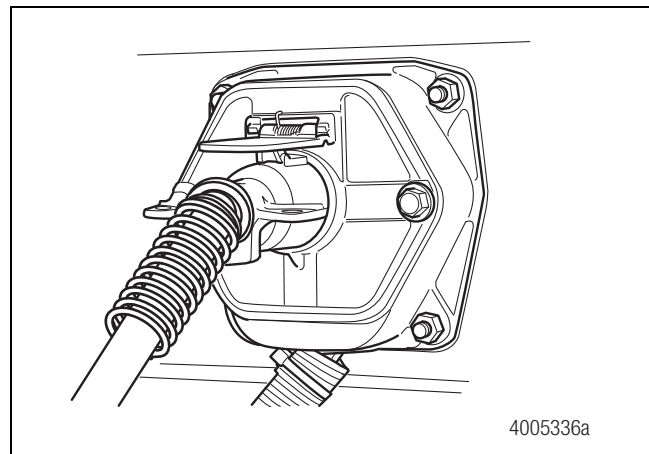

Figure 3.3
4. Connect a 12-volt power source to the trailer seven-way box. Figure 3.3.